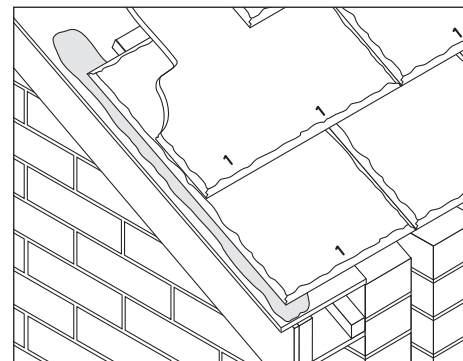

Fig. 16 – Bedded verge on bargeboard with fibre cement undercloak
- 3 Mortar the edge of the verge slates flush with the undercloak on a bed of mortar. Neatly point to form a weathered profile giving 5mm overhang of slates over the mortar. Make sure that the mortar is not displaced or cracked when nail-fixing the roof slates (Fig. 16).